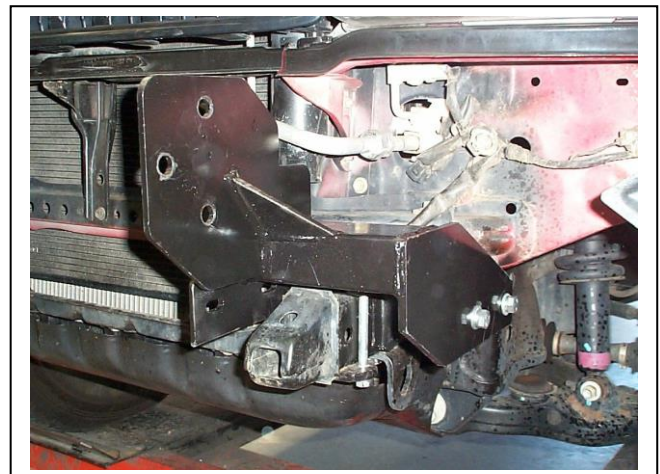

Figure 2 – Passenger side shown
7. Loosely attach steel mounts (supplied) to chassis rail, use M10 x 35 x 1.25 bolts (supplied), ensuring the angle brackets are resting on top of the chassis. Clamp the steel mounts to the chassis; use the clamp plates (supplied) and the 3/8 x 4 1/2 bolts (supplied). **TIGHTEN ALL BOLTS. See figure 2 and 3.**